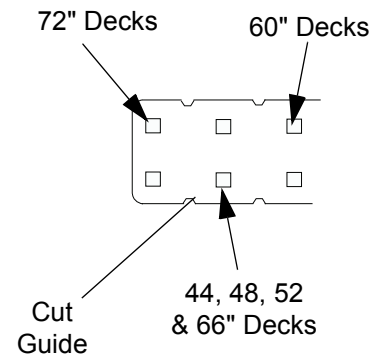

Figure 2
2. Determine chute pin mounting location based on deck size. See Figure 2.